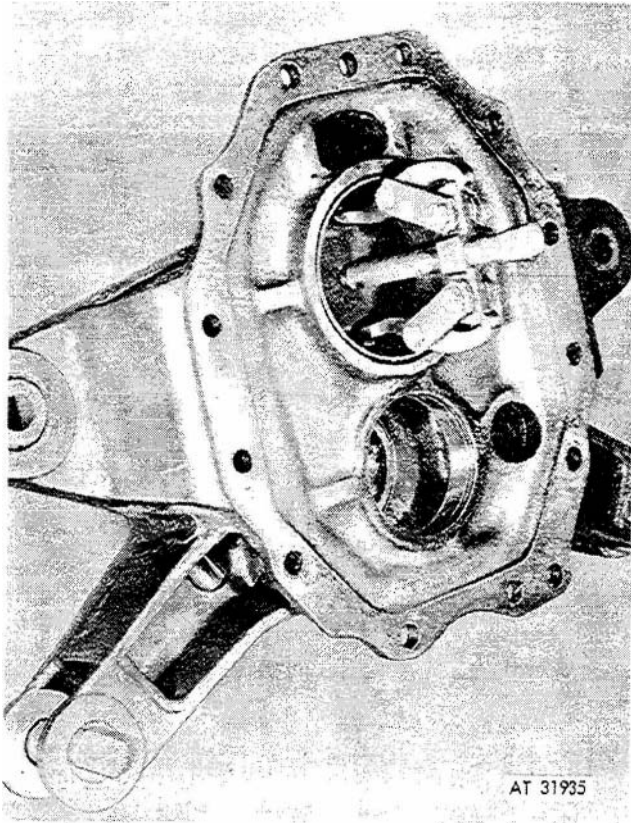

Figure 3-139. Removing bearing cup from input housing.
(8) Using a suitable puller and plate, remove bearing cup of bearing (30, fig 3-133) from housing (11) as shown in figure 3-139. Remove shims (29, fig 3-133) from housing (11).